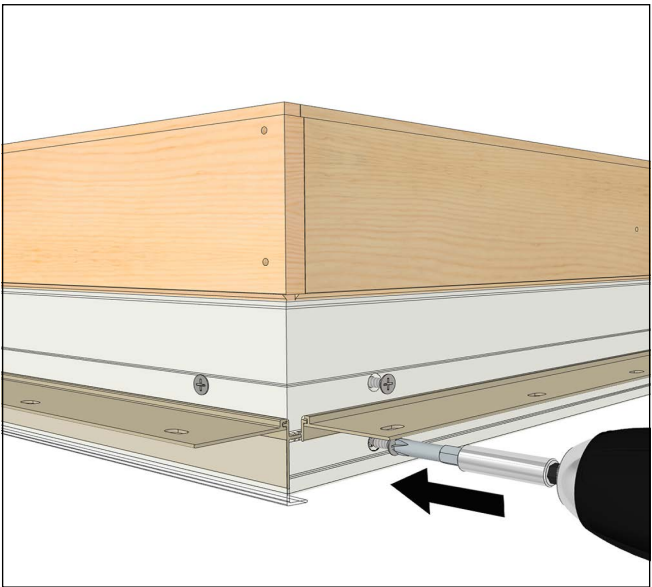

Figure 2
2. Fasten the side jambs to the head jamb. Do not over tighten miter joint. See Figure 2.